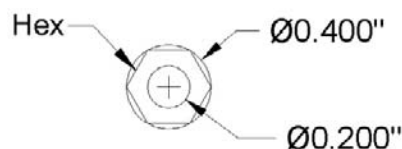

FIGURE 8.25
Step 3. To begin the drawing itself, we need to start with the hex bolts. Go ahead and draw one of them according to the information in Figure 8.25. Be *very* careful, all sizes are diameters *not* radiuses; you must tell AutoCAD this by pressing **d** for **Diameter** while making a circle. This has tripped up many students in the past. Also do not forget to make layer M-Part current. If the bolt is anything but green in color, you missed this step. The dimensions are only for your reference for now; there is no need to draw them.